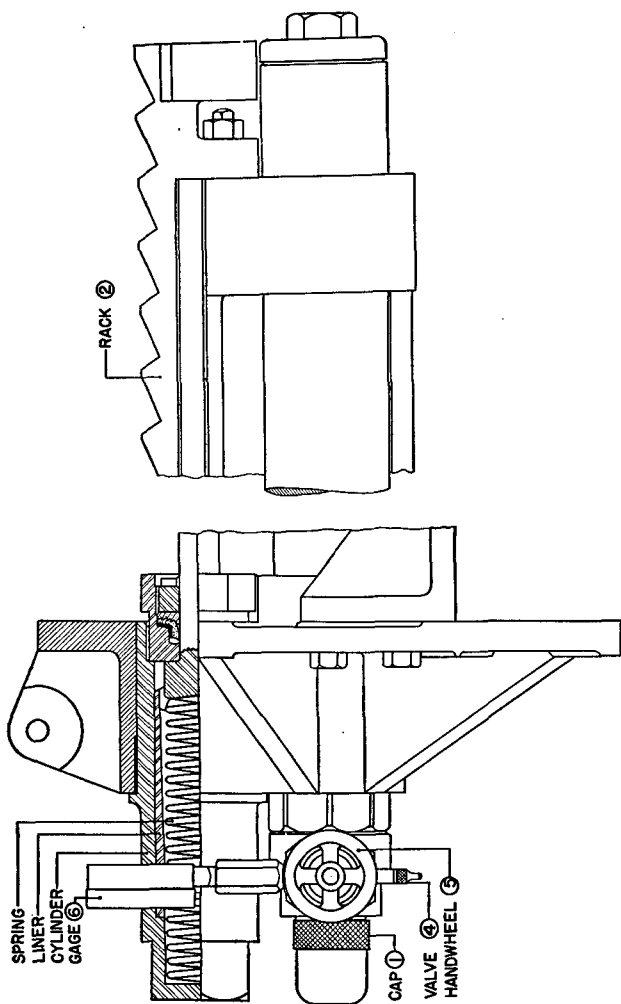

FIGURE 7.—Portion of loading mechanism.
■ 42. REPLENISHING OIL SEAL IN FLOATING PISTON (fig. 7).—This service is performed before each firing period or when directed by the battery commander. Remove rammer piston valve body cap (1), attach oil screw filler filled with heavy
■ 43. REPLENISHING AIR PRESSURE TO INITIAL PRESSURE (figs. 7 and 8).—Have rammer latch rack (2) resting against front buffer piston (3). Attach hose of air pump provided to valve (4), being careful not to strip threads of valve. Open rammer piston air valve by turning air valve handwheel (5). Pump air into valve by means of air pump, which should be attached to breech operating platform on right side of mount for that purpose. When pressure gage (6) indicates a reading of 80 pounds per square inch, close rammer piston air valve, detach air pump hose, and remove air pump from breech operating platform. Care should be taken not to elevate or depress gun while air hose is connected.